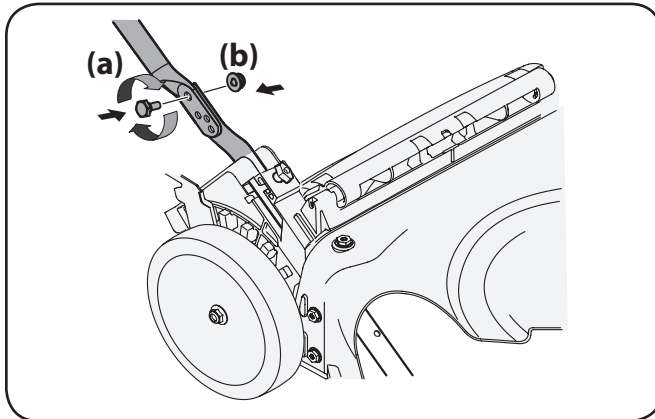

Figure 3-1
1. Pivot the upper handle into the operating position. Align hole in upper handles with hole in lower handle. See Figure 3-1.
2. Tighten bolts (a) with nuts (b) to attach lower handles with upper handle. See Figure 3-1.